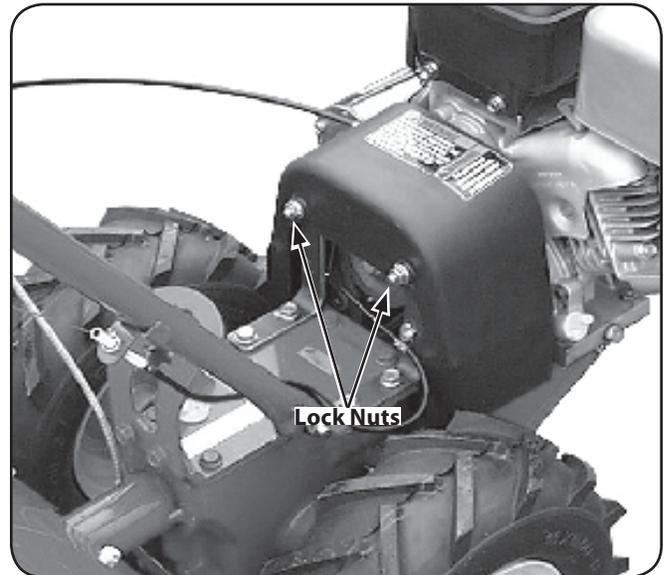

Figure 6-8
2. Remove the two lock nuts and remove the belt cover. See Fig. 6-8.
2. Remove the two nuts and remove the belt cover. Refer to Fig. 6-8 in the Maintenance & Adjustments Section.
- Remove the belt cover by removing two flange locknuts. See Fig. 6-8 in the Maintenance & Adjustments Section.